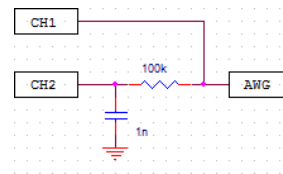

Figure 62: RC Circuit
- 1) Build the circuit shown on figure 62.